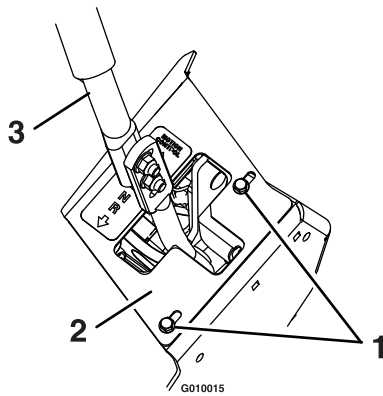

Figure 43
1. Loosen the screws on a cover plate (see Figure 43).